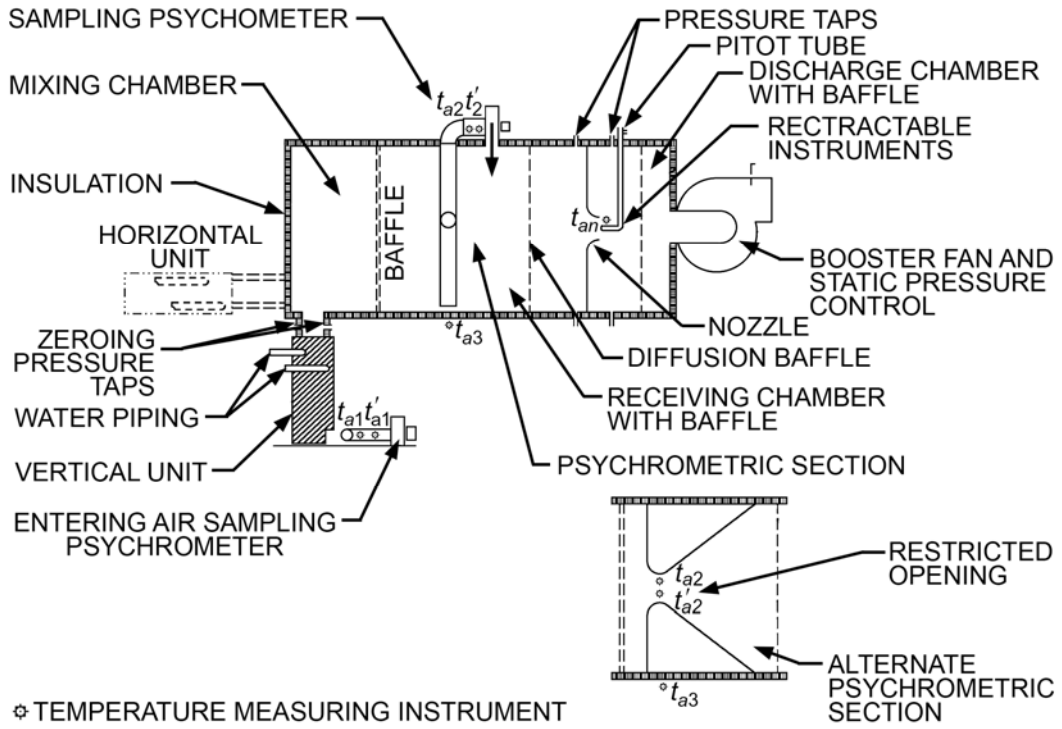

Figure 2 Airflow- and temperature-measuring apparatus.
- 4**      **Figure 2 Airflow- and temperature-measuring apparatus.** Replace the current figure with the one shown below.